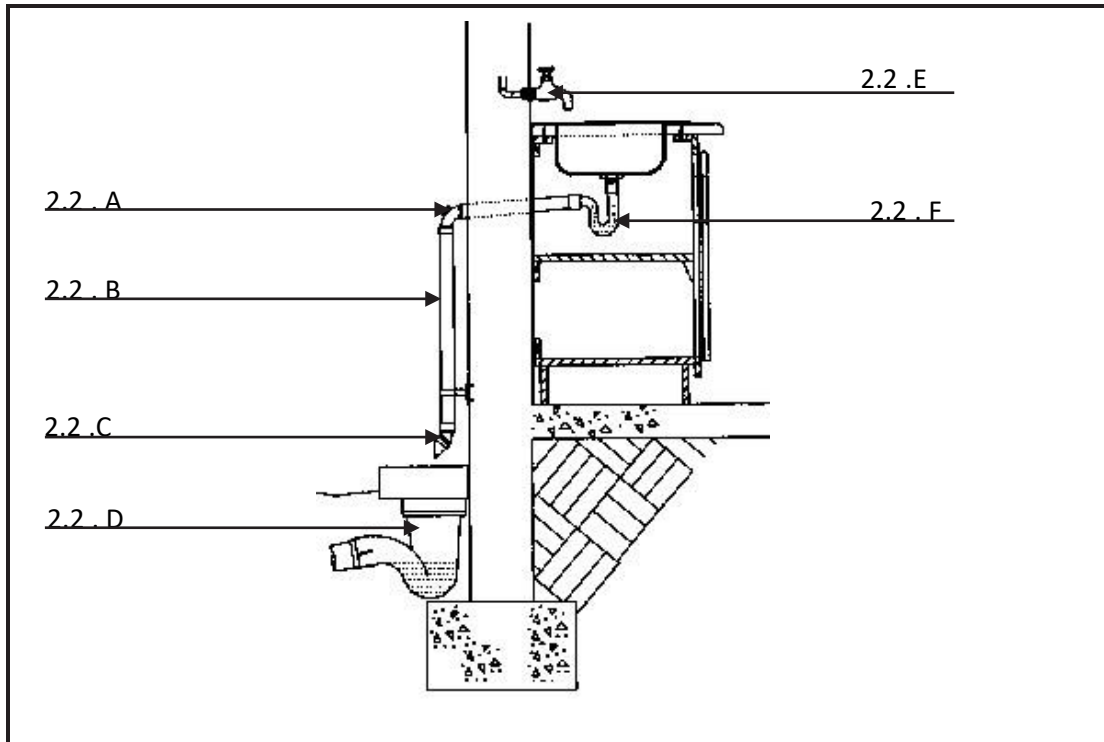

FIGURE 2.2
2.2 Answer the following questions with regard to the sink installation in **FIGURE 2.2.**